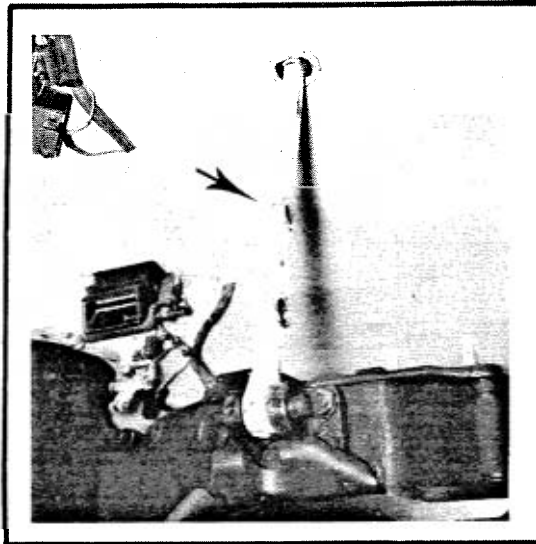

FIG. 3-92. TRAVEL LOCK
(1) Remove the main gun from travel lock (Fig. 3-92). Stow the travel lock bar above the loader's turret wall ready rack in the bracket provided (Fig. 3-93).